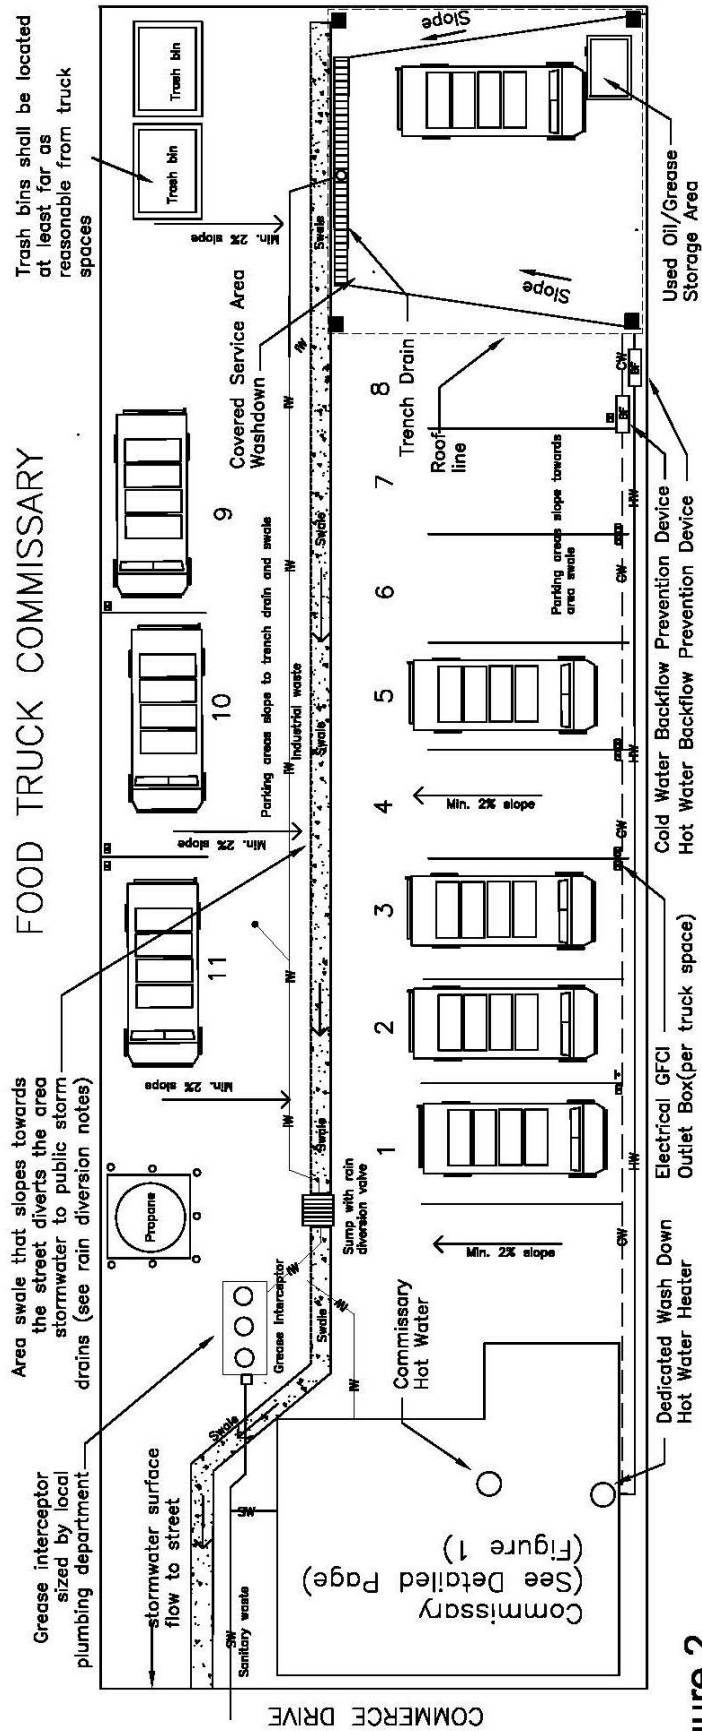

Figure 2
B. Figure 2 – Commissary Site Plan – Trucks